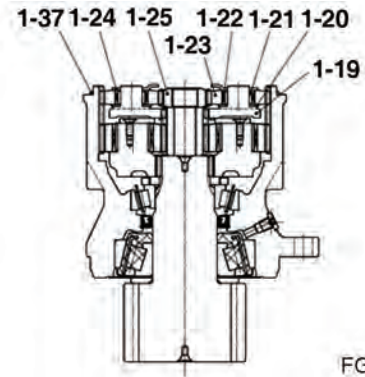

Figure 81
10. Install holder (1-19, Figure 81).